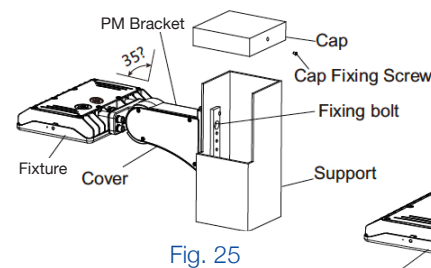

Fig. 25
1. Open the access cover of the bracket and pass the power cable through bracket. Fix the bracket to the end of the fixture with bolt. Pass the power cable through the direct bracket (Fig. 25).